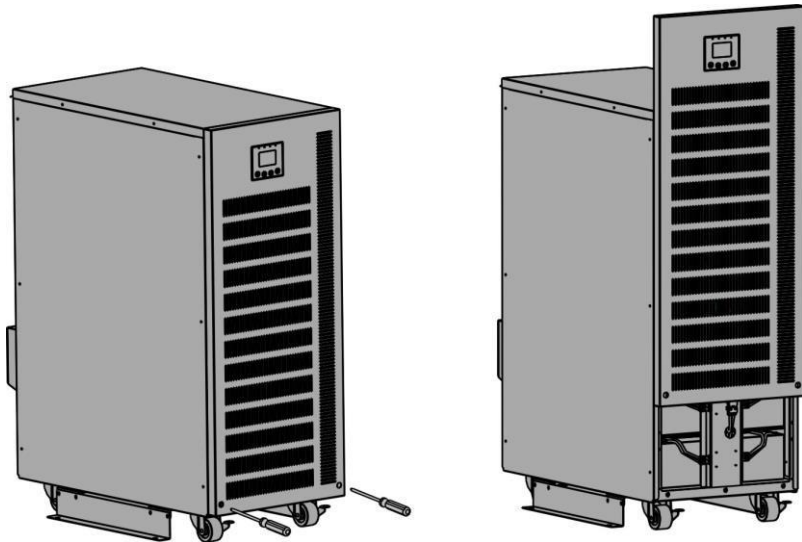

Fig. 8-1 Battery easy replacement-Step 1
- 1) Remove the front panel and disconnect the connector on the LCD display board. See Fig. 8-1.